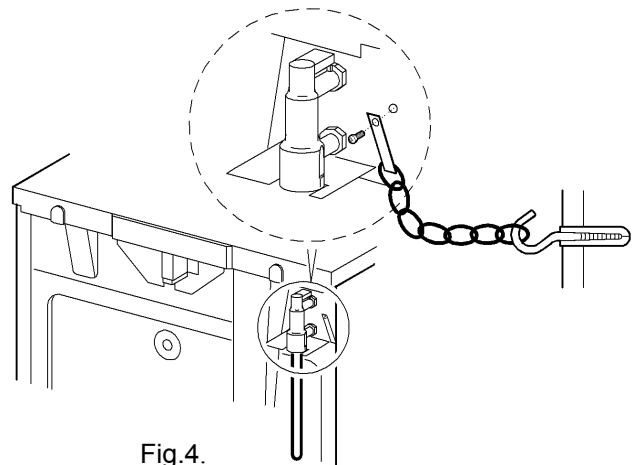

Fig.4.
4. The stability chain anchor point on the appliance is shown in the diagram Fig. 4.